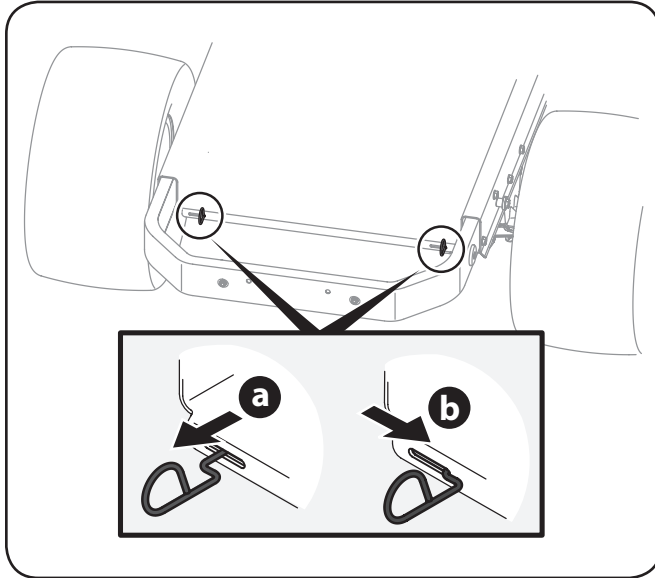

Figure 3-3
1. Engage the transmission bypass rods, one on each side of the rider, to move the rider manually without starting it. The transmission bypass rods are located on the rear of the rider, just inside each rear wheel. Engage the bypass rods by pulling each one out (a) and to the right (b) to lock it into place. See Figure 3-3.
2. Disengage the bypass rods by reversing steps a & b after moving the rider. See Figure 3-3.